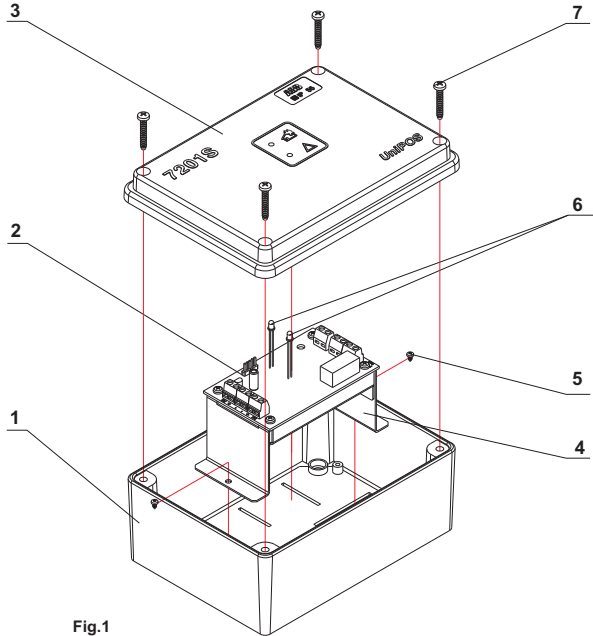
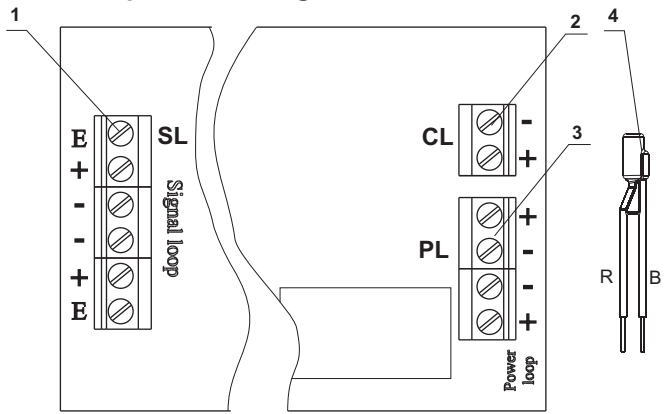

Fig.1
Fig.2
The unit comprises a printed circuit board (fig.1 pos.2) and a frame (fig.1 pos.4) placed in a plastic body (fig.1 pos.1). Terminals for connection to the signal loop **SL** (fig.2 pos.1), power loop **PL** (fig.2 pos.3) and for conventional detectors line **CL** (fig.2 pos.2) are provided on the printed circuit board. The module is completed with a terminating component **EOL-2** having a red **R** and a black **B** leads (fig.2 pos.4) that shall terminate the conventional fire alarm line.
Both LEDs (fig.1 pos.6) situated on the body of the module provide information for the following:
1. Remove the cover (fig.1 pos.3) by unscrewing the fixings (fig.1 pos.7).
2. Remove the frame (fig.1 pos.4) from the base by unscrewing the fixing (fig.1 pos.5).
5. Fix the frame with the printed circuit board to the base using the fixings (fig.1 pos.5).